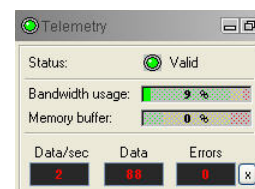

Figure 4-3 Telemetry panel
6. Press the **Record** button in the **Acquisition** panel (**Figure 4-3**), specify a file name and start the logging.
The telemetry provided through the ALTLogger is self-tuning. In case communication status is not valid the user can manually adjust the settings. In the **Telemetry** panel of the dashboard click on **Settings** to display the **Configure Tool Telemetry** dialog box (**Figure 4-3**). A procedure to achieve valid communication is given below: